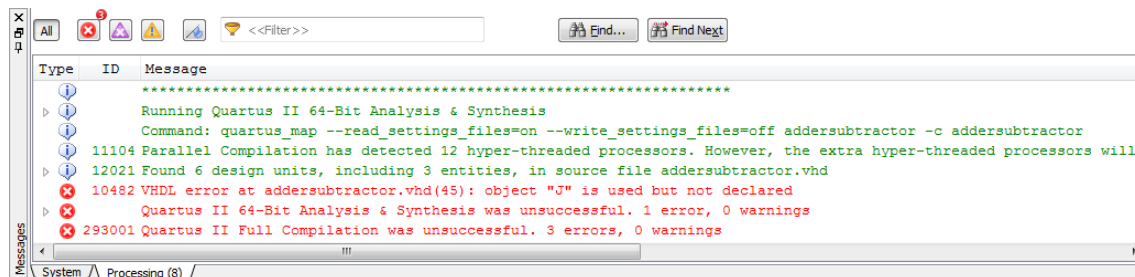

Figure 27: Error messages.
2. In this window, Click on Analysis & Synthesis > Messages to have all messages displayed as shown in Figure 27.